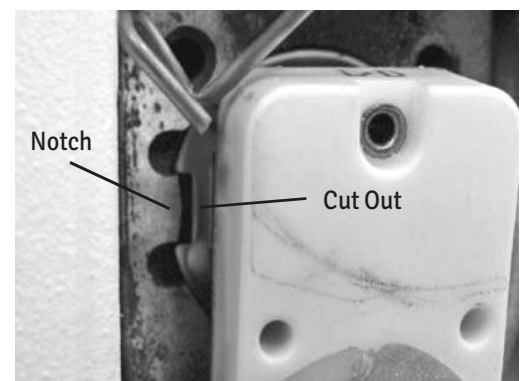

Figure-23 Notches
**NOTE:** Position the Bulb Holder so the cut out in the metal collar of the Bulb lines up with the Notch in the lamp housing. Refer to figure-23.